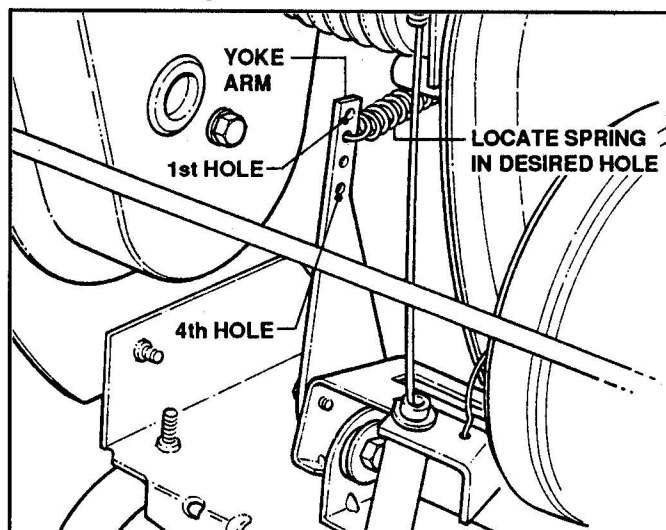

FIGURE 4.12
6. Move spring to 1st hole (for positive clutch action) or to 4th hole (for more clutch slippage). See Figure 4.12.